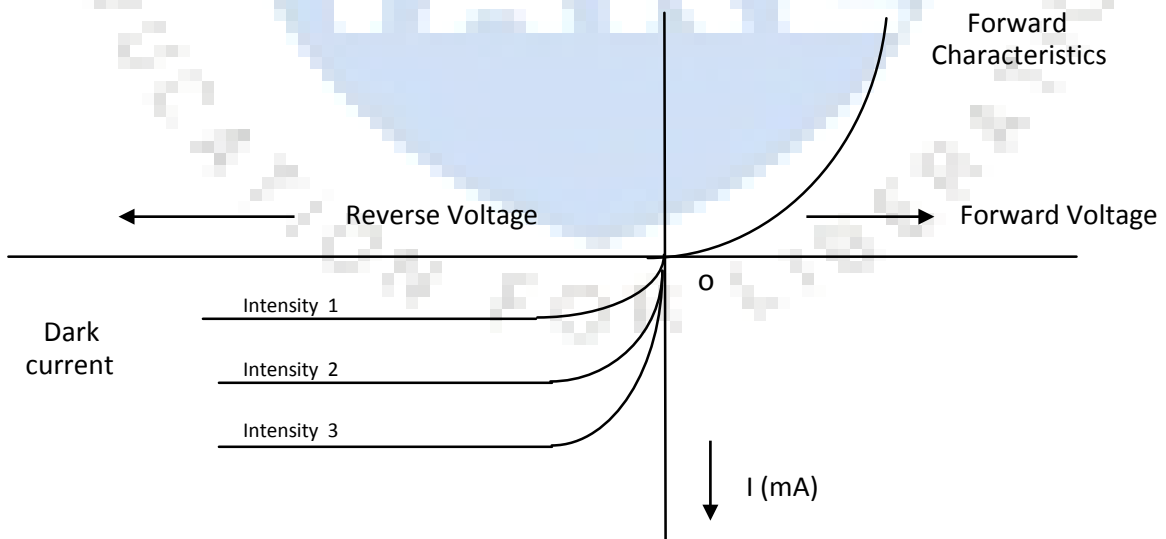

Fig 2(c) Characteristics curves of a photo diode
- 6) Repeat step 1 to step 6 at different intensities of light. Draw V_R Vs I_R on the same graph as shown Fig 2(c).